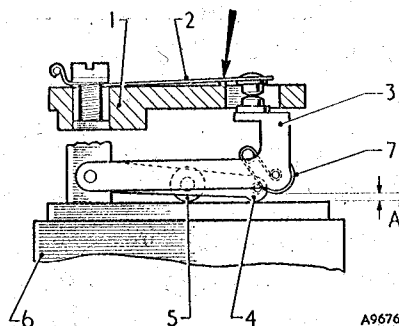

Fig. 14. The contact gap setting on earlier-type rocker assemblies
32. Check the gap between the points indirectly by carefully holding the contact blade against the rib on the pedestal without pressing against the tip (see Fig. 14). Then check